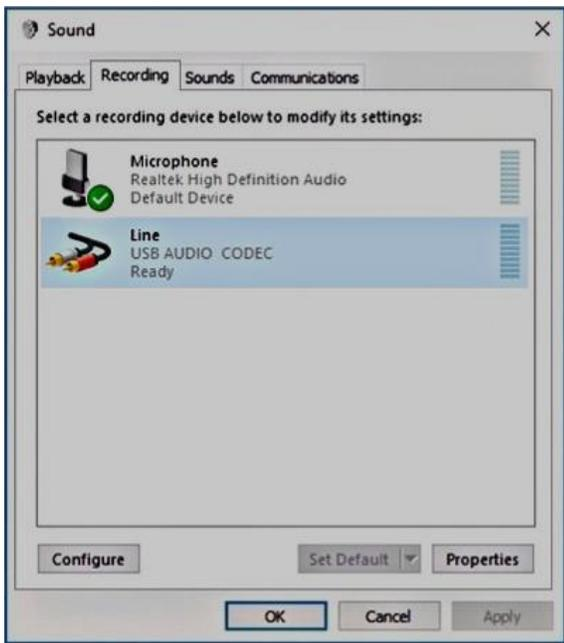

Figure 8 - Sound window Recording tab
- In the Sound window that opens, select the "Recording" tab as shown below in Figure 8. In the list of displayed recording devices, click one time on the Signalink's "Line - USB Audio Codec" sound card to select it (it should be highlighted). Next, click the "Properties" button.